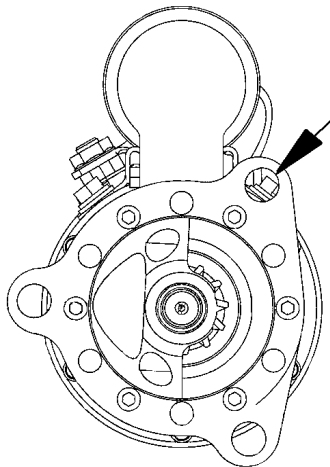
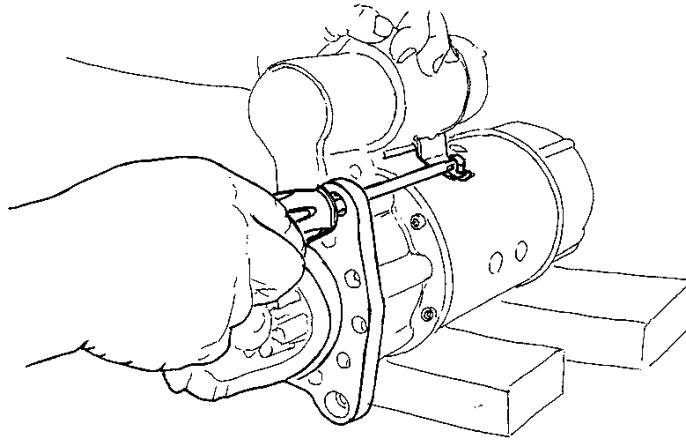

Figure 3 - Flange Mounting Hole (Arrow) Aligned with Solenoid Housing Mounting Bolt Shown in the Background When Viewed Through the Flange Mounting Hole
Figure 4 - Using a Screwdriver to Align Flange Mounting Hole with Solenoid Housing Mounting Bolt
6. Install the new nose cone housing. Align the flange as shown in Figure 3. When the nose cone housing flange is correctly aligned, the flange mounting hole, arrow in Figure 3, will be approximately in line with the solenoid housing mounting bolt. Placing a screwdriver through the flange hole in line with the solenoid mounting bolt (Figure 4) may be helpful to guide and align the nose cone housing flange.